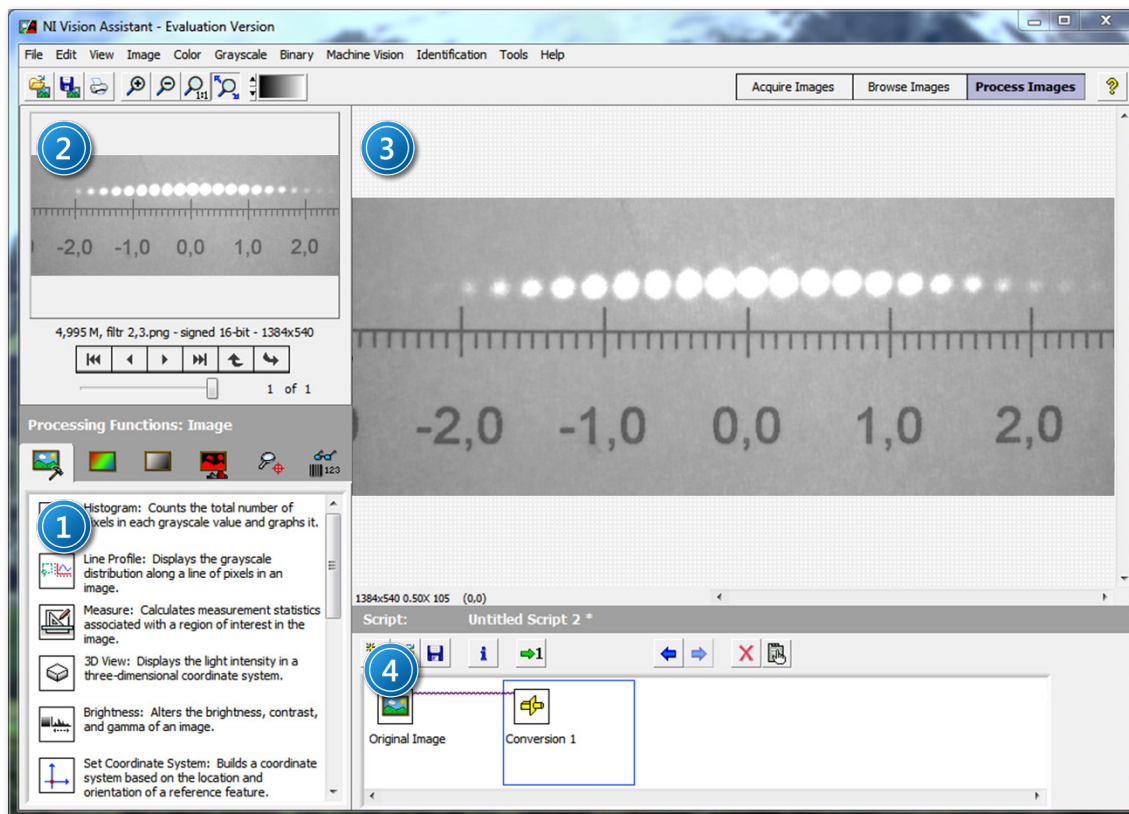

Figure 4. *NI Vision Assistant* program window: 1 – function selection panel; 2 – image selection panel; 3 – image preview panel; 4 – script editing panel.
A List of operations performed sequentially by *NI Vision Assistant*, such as image transformations, distance measurements and conversions is written in a script that appears in the script editing panel (4, Figure 4).
3. At any time, you can select which image to edit with the *Process Image* tab by clicking  in the image selection panel (2, *Figure 4*), or by going to the browser (click *Browse Images*) and double-clicking the selected thumbnail image (or selecting the thumbnail with a single mouse-click and going to the *Process Image* tab).
2. under the *Greyscale* menu, select *Conversion*, and in the function selection panel (1, *Figure 4*), choose *8-bit [0, 255]* and confirm by clicking *OK*.
- Confirm the image calibration data by clicking *OK* in the function selection panel (1, Figure 4).
- After image calibration, you can make distance measurements between any two points. To do this, click *Measure* in the function selection panel (1, Figure 4):